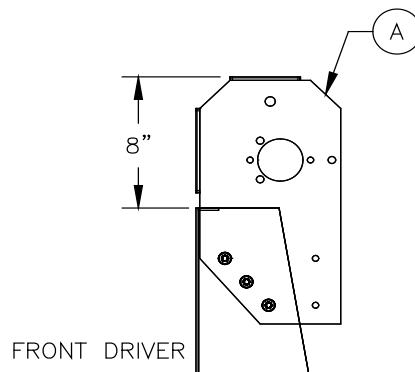

Figure 2
Procedure: Position the driver and passenger rolltube brackets (A) along the front sides of the gravel box. The brackets should be mounted at a distance of 8" higher than the top of the box (see Figure 2).